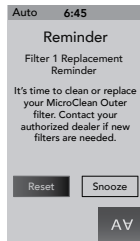

Figure 15.0d
23. **MicroClean Outer Filter Reminder:** This message will appear when the filter reminder time has expired (Figure 15.0d). Remove the MicroClean Outer filters for cleaning or replacement.